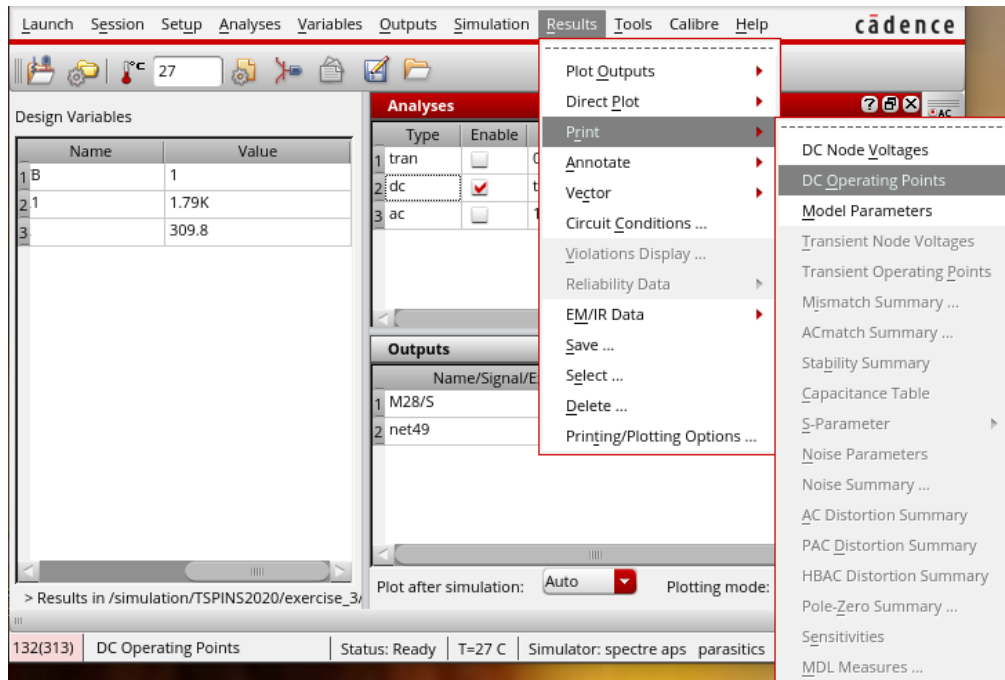

Fig.5 Print DC Operating Points
8. To ensure that the transistors are working in saturation region, you need to check the “DC Operating Points” of all transistors. Select **“Results”**→**“Print”** →**“DC Operating Points”**, as shown in the Fig. 5. Then go back to the schematic window and use your mouse to click on the transistor, the DC operating points will be printed next to each device. The result of “DC Operating Points” of the transistor will pop up in a window. Based on DC operating points, determine if all transistors are in saturation region.